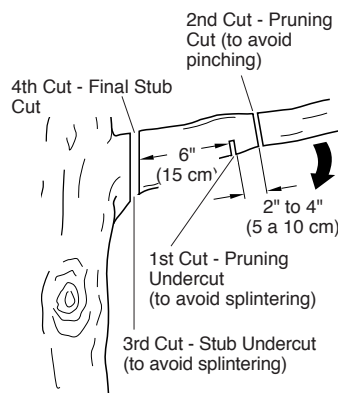

Figure 19 - Cutting A Limb
1. Make first cut six inches from tree trunk on underside of limb. Use top of guide bar to make this cut. Cut 1/3 through diameter of limb (see Figure 19).